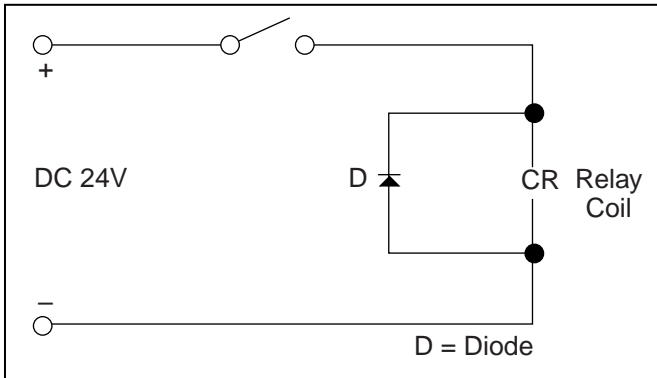

Figure 1.3 Loads Following Polarity
1. Put Diode parallel to loads following polarity. See Figure 1.3.